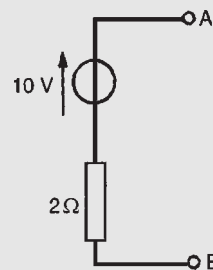

Figure 13.68
**Problem 18.** Convert the circuit shown in Fig. 13.68 to an equivalent Norton network.
If terminals AB in Fig. 13.68 are short-circuited, the short-circuit current  $I_{SC} = 10/2 = 5 \text{ A}$